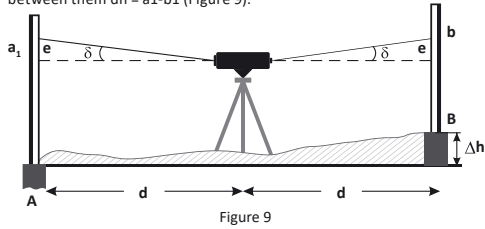

Figure 9
a) Set leveling staffs A and B at distance 50 m from each other. Set the instrument right in the middle between the staffs. Level the instrument and take the readings on the staffs A and B accordingly. Exceedence between them  $dh = a_1 - b_1$  (Figure 9).